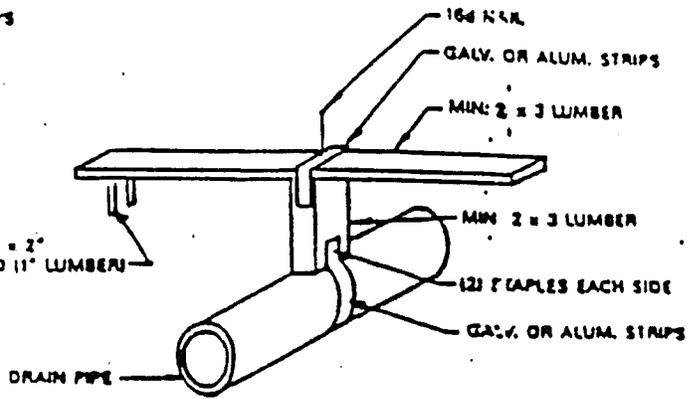

Figure 8.4
- 8.3.1 Assembly and support.** If portions of the drainage system were not installed at the factory, all materials and diagrams required to complete it have been shipped as loose items in the home. Assemble the drainage system following the specific instructions and diagrams provided with the home. Start at the most remote end and work toward the outlet, supporting the piping with temporary blocking to achieve the proper slope (see paragraph 8.3.2). When the entire system has been completed, install permanent drain line supports at 4' on center, as shown in Figure 8.4.